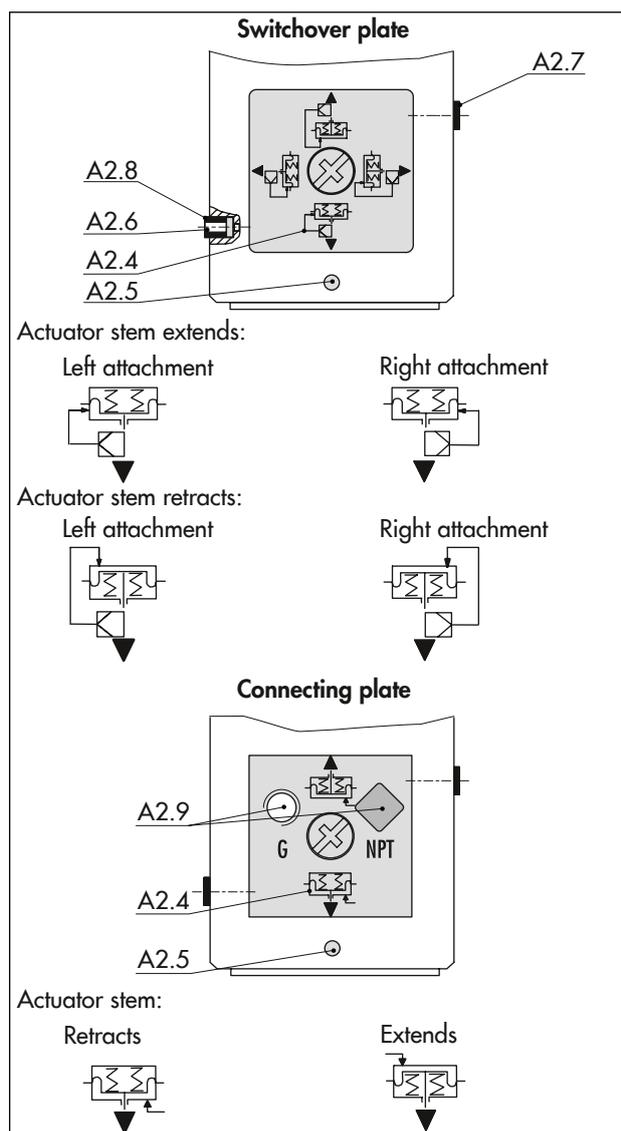

Fig. 15: Switchover plate and connecting plate on Type 3277-5
- ⇒ Turn the switchover plate to align the symbol (A2.4) matching the fail-safe action and attachment side with the marking (A2.5). See Fig. 15.
- ⇒ Turn the connecting plate to align the symbol (A2.4) matching the fail-safe action with the marking (A2.5). See Fig. 15.